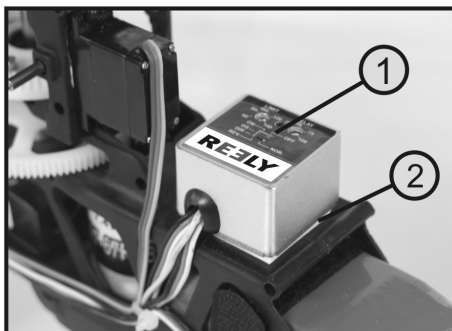

Figure 19
For the gyro (1) to stabilise the tail of the helicopter, it must be vibration-dampened, but firmly connected to the chassis. Therefore, double-sided adhesive tape has been used to attach the gyro on the mounting platform (see figure 19, item 2).